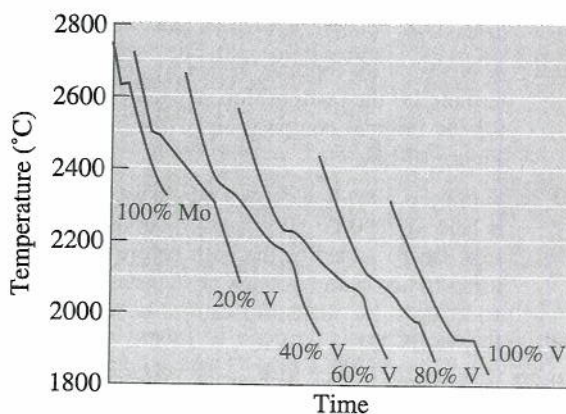

**Figure 10-20** Cooling curve for a Nb-W alloy (for Problem 10-39).
- 10-39** Figure 10-20 shows the cooling curve for a Nb-W alloy. Determine (a) the liquidus temperature; (b) the solidus temperature; (c) the freezing range; (d) the pouring temperature; (e) the superheat; (f) the local solidification time; (g) the total solidification time; and (h) the composition of the alloy.